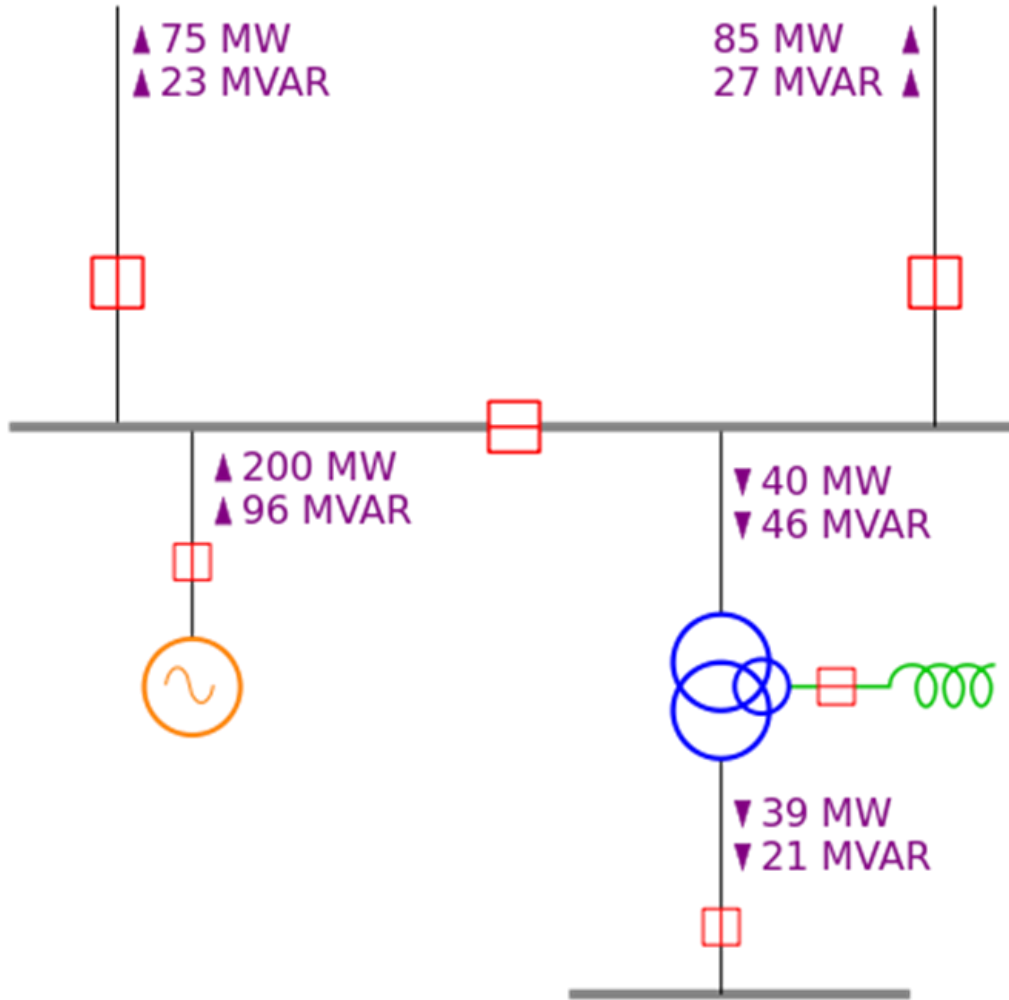

Fig. PF-4-1-33 A typical single-line diagram with annotated power flows.
- A typical one-line diagram with annotated power flows is shown in **Fig. PF-4-1-33** :